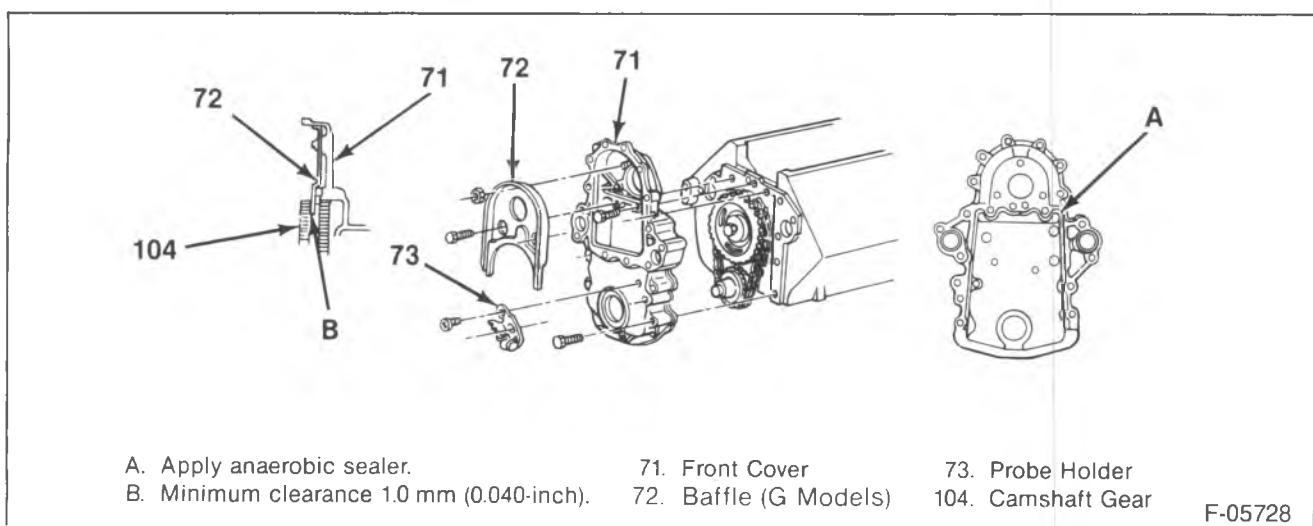

Figure 40—Front Cover Installation
- Apply a 2 mm ($\frac{3}{32}$ -inch) bead of anaerobic sealant (GM part number 1052357 or equivalent) to the front cover sealing area shown in figure 40.
1. Front cover to the engine. Install the bolts (70).
- Clearance between injection pump gear and baffle (figure 40). It is necessary to maintain a minimum of 1.0 mm (0.040-inch) between the gear and baffle, or noise may result.
- Apply a 5 mm ($\frac{3}{16}$ -inch) bead of RTV sealant (GM part number 1052915 or equivalent) to the oil pan sealing surface, inboard of the bolt holes (figure 40). The sealer must be wet to the touch when the oil pan is installed.
- Bolts (133).